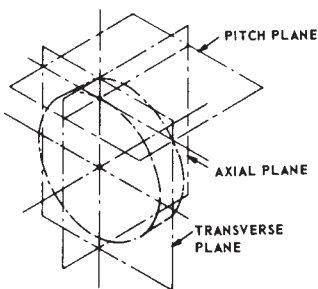

FIGURE 1.7 — PITCH, AXIAL & TRANSVERSE PLANES
- 1.16 The Axial Plane** of a pair of gears is the plane that contains the two axes. In a single gear, an axial plane may be any plane containing the axis and a given point. (Figure 1.7)
- 1.17 The Pitch Plane** of a pair of gears is the plane perpendicular to the axial plane and tangent to the pitch surfaces. A pitch plane in an individual gear may be any plane tangent to its pitch surface. The pitch plane of a rack or crown gear is the pitch surface. (Figure 1.7)
- 1.18 A Transverse Plane** is perpendicular to the axial plane and to the pitch plane. In gears with parallel axes, the transverse plane and plane of rotation coincide. (Figure 1.7)
- 1.19 A Plane of Rotation** is any plane perpendicular to a gear axis. (Figure 1.7)